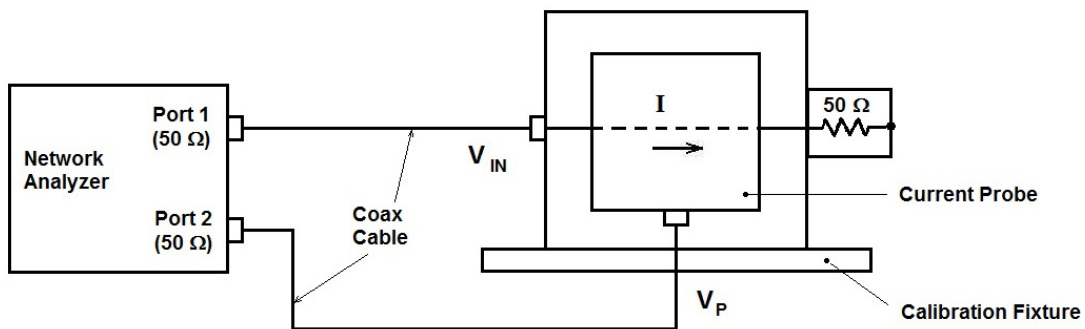

Figure 1 - Basic Setup for Calibration of a Current Probe
Figure 1 shows a side view of a typical calibration setup. The network analyzer drives one side of the calibration fixture and the other side of the fixture is terminated with a 50 Ω load. The network analyzer works in terms of power, but it is more convenient to think of the corresponding voltages since it is a 50 Ω system. The network analyzer will measure the ratio of the voltage appearing at the output of the Current Probe (V_P) to the voltage driving the calibration fixture (V_{in}) i.e. $\frac{V_P}{V_{in}}$. If the network analyzer is working in S parameters, this would be a S_{21} measurement. A similar calibration could be executed using a signal generator and a receiver instead of a network analyzer.
In Figure 1, Z_t is $\frac{V_p}{I}$. To calculate current (I), Ohm's Law is used wherein $I = \frac{V_{in}}{50 \Omega}$. So Z_t is therefore:
A common way a Current Probe is used is shown in Figure 1. It is desired to measure the current flowing on the wire or cable bundle that the probe is placed around. The voltage out of the Current Probe resulting from the current I flowing on the wire is measured on a receiver having a 50Ω input impedance. Note this 50Ω input impedance is necessary to match that used in the Current Probe calibration discussed above.